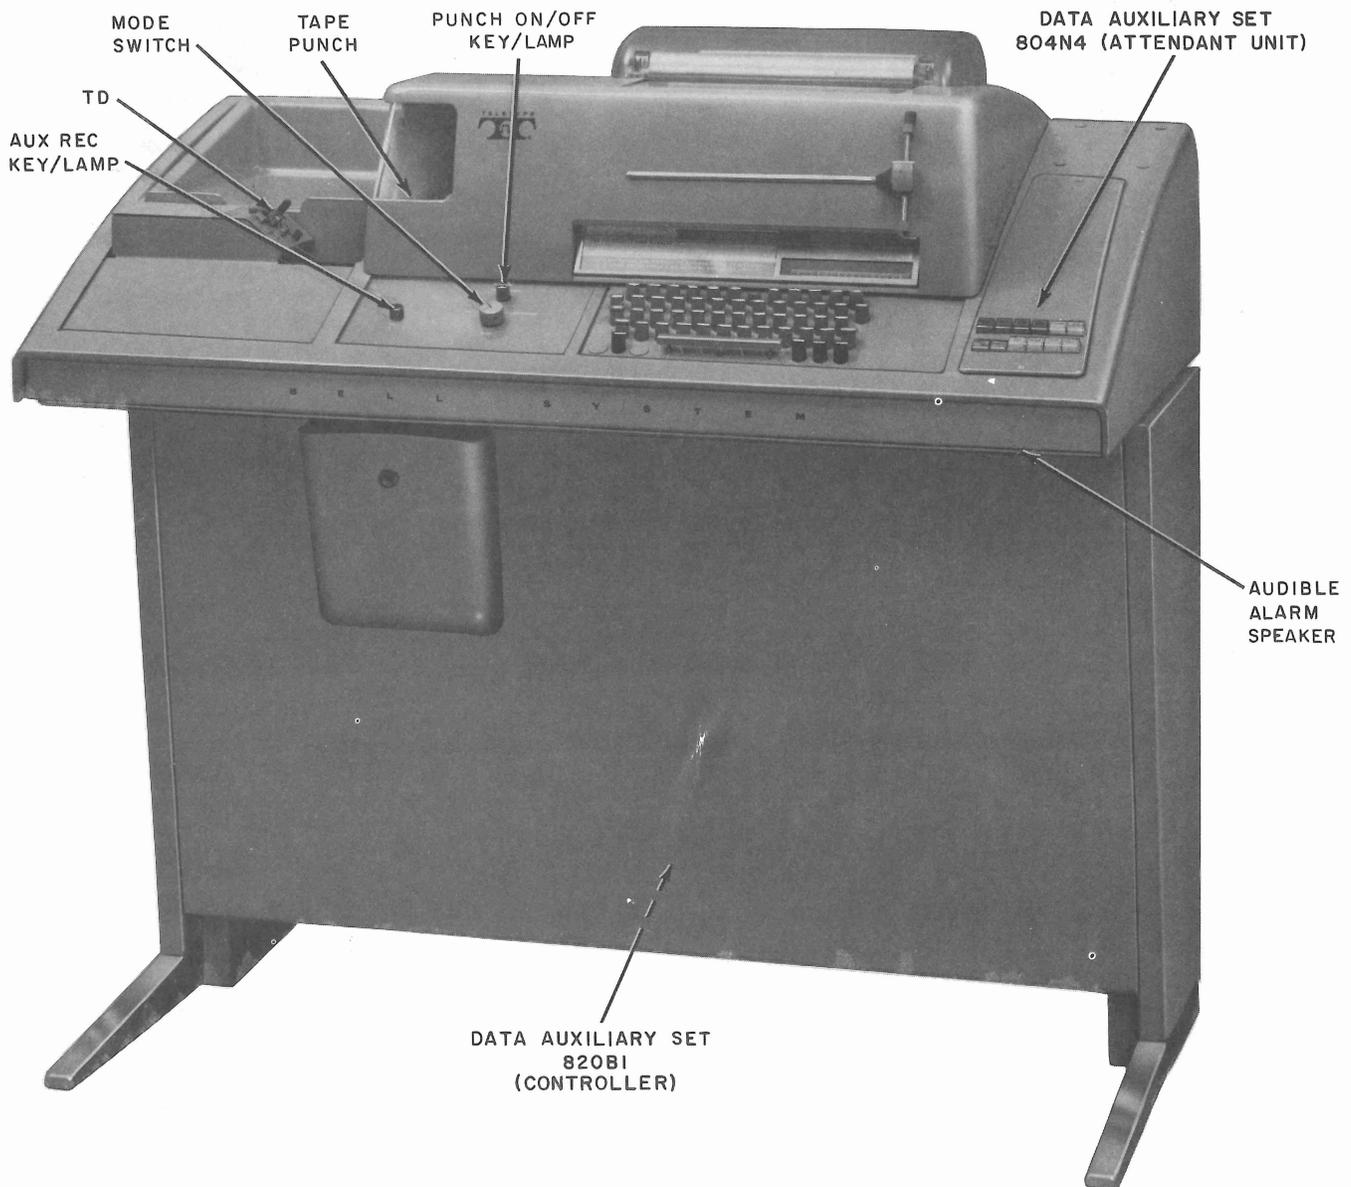

Fig. 9—35 ASR TTY Data Station
- (1) Operate the two cover latches on each side of the upper cover and open the upper cover to its partially open latched position (Fig. 9 and 10).
- (1) If ASR TTY, remove the chad box located on the front panel (Fig. 9).
- (2) Release the front panel by momentarily operating the two pushbutton latches at the top of the panel.